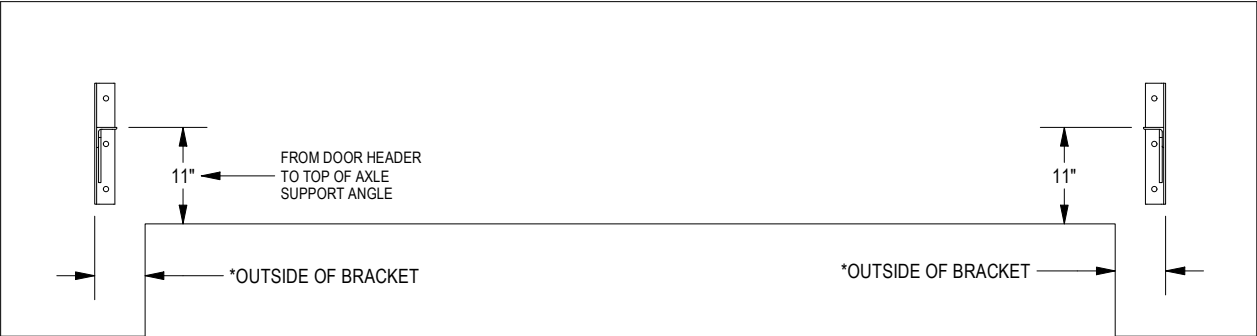

FIGURE 6:
- Height of door bracket above top of the door opening is 11". See Figure 6